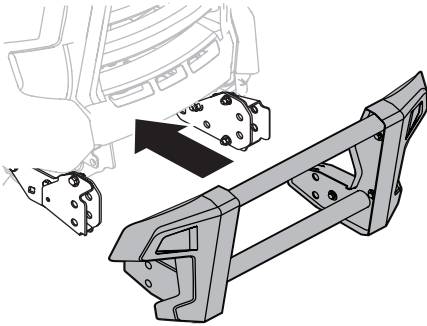

Figure 16
1. Align the brush guard assembly with the FastAttach™ brackets and push assembly together. See Figure 16.